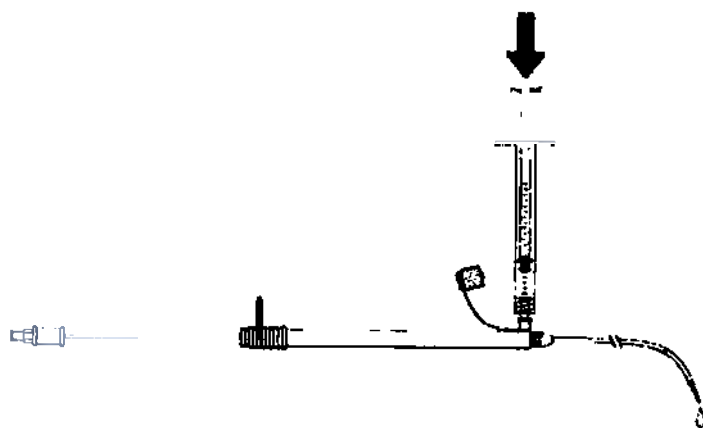

Fig. 2
4. Immediately before placing the delivery system into the body, use a 1 ml syringe to flush the delivery system with saline through the side-arm flushing port. Flush until a few drops of saline exit the distal tip, between the delivery system outer sheath (d) and inner catheter (e). (**Fig. 2**)